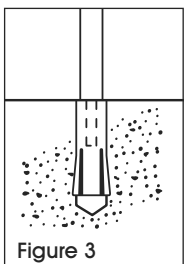

Figure 3
3. Expand anchor with setting tool. Anchor is properly expanded when shoulder of setting tool is flush with top of anchor. (See Figure 3)